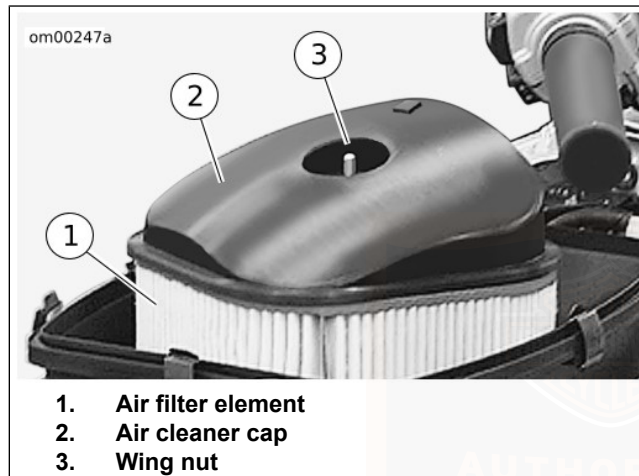

Figure 44. Air Cleaner Assembly
5. See Figure 44. Unscrew the wing nut securing the air cleaner cap. Remove the air cleaner cap and paper/wire mesh air filter element.